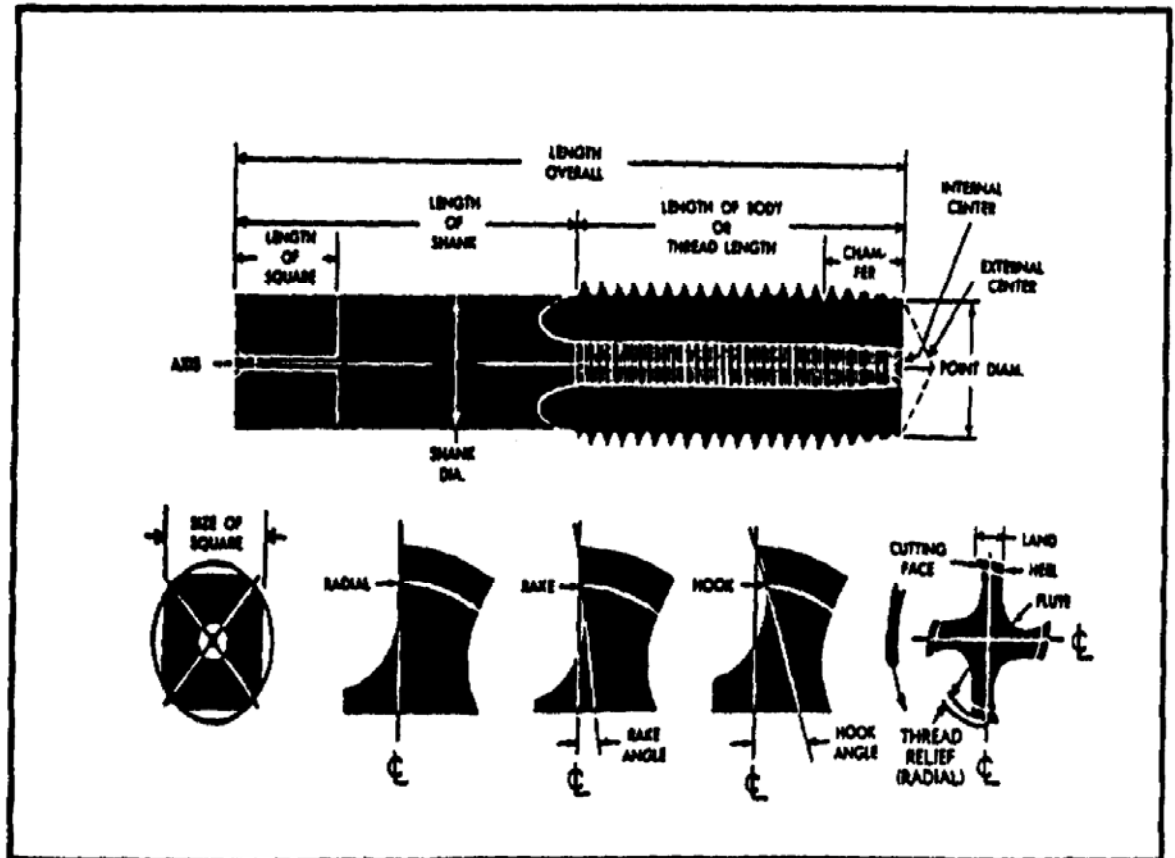

FIGURE 133. TAP TERMS.
(2) *Tap Design*. A tap is a threading tool designed to produce a completed internal thread and to make threading possible without a lead screw. A tap is basically a screw in which longitudinal channels or flutes are cut or ground. The flutes permit chips to escape and lubricants to reach the cutting area and threaded metal. Terms used when discussing taps are as indicated in (a) through (s) below (figure 133).